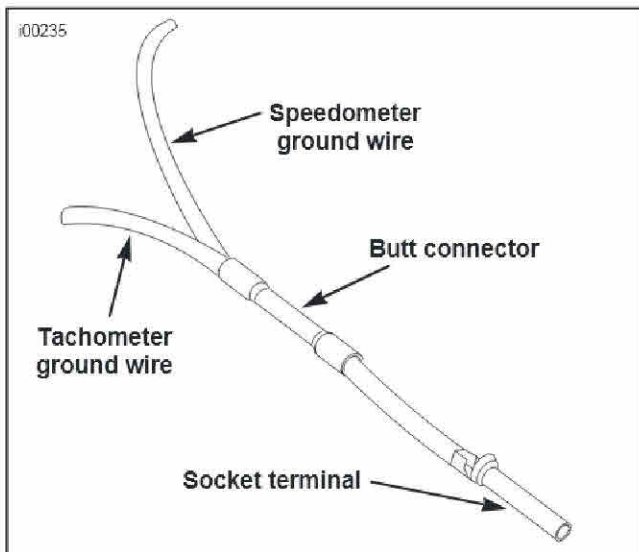

Figure 7. Connecting Tachometer and Speedometer Grounds
- See Figure 7. Using the butt connector from the kit connect the ground leads as shown. Refer to "SEALED BUTT CONNECTORS" in the Service Manual for a complete procedure.